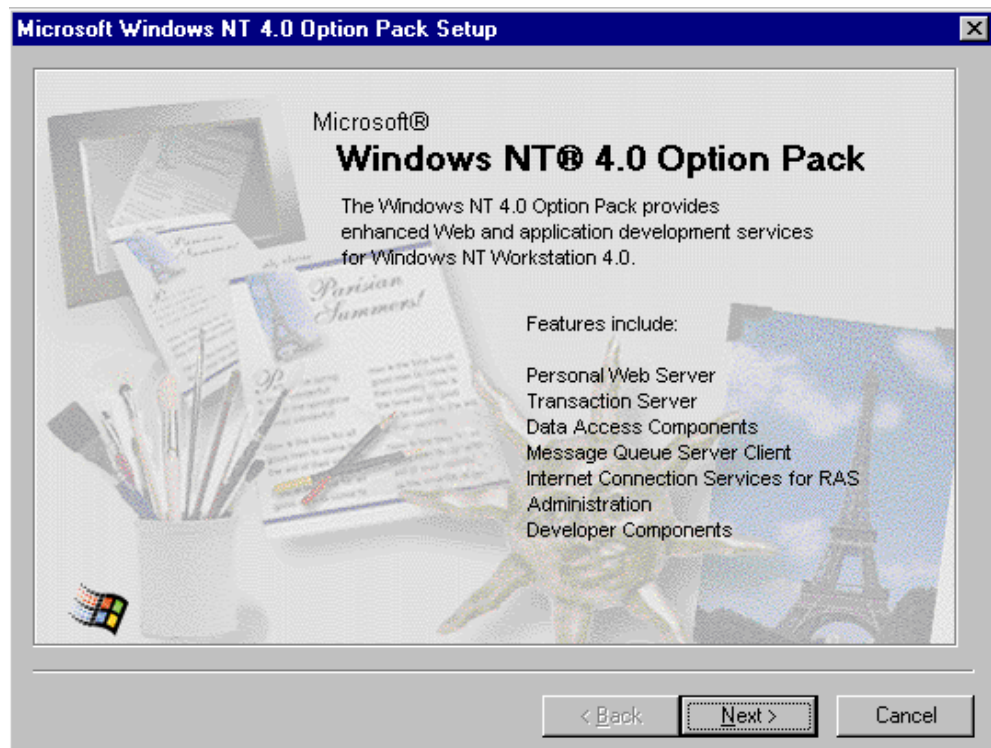

Figure 2.7. Microsoft Windows NT 4.0 Option Pack Setup
1. To install a Personal Web Server, go into the **Tools** directory on the Microsoft Windows NT® 4.0 Options Pack CD-ROM and select **Tools\pws**. The **Option Pack Setup** window will appear, as shown in **Figure 2.7**.